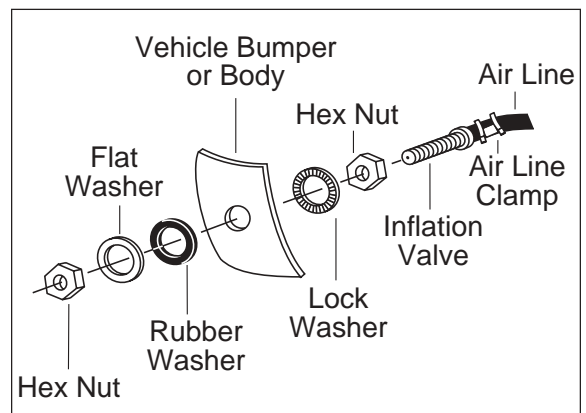

Figure 8
- j. Drill a  $\frac{5}{16}$ " hole for inflation valve and mount as in illustration (Figure 8). Rubber washer is for outside weather seal.
- f. Drill  $\frac{5}{16}$ " hole for inflating valves and mount as illustrated. Rubber washer is for outside weather seal (Figure 8).